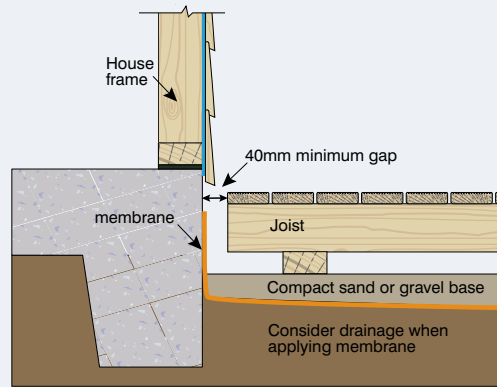

Figure 22: Bearer directly on to ground
- Bearers placed straight on to the ground or soil (Figure 22).
Only termite-resistant timber should be used (see section above) and there should be a gap between the house and deck of at least 40 mm to allow for pest inspection and air flow (Figure 22).